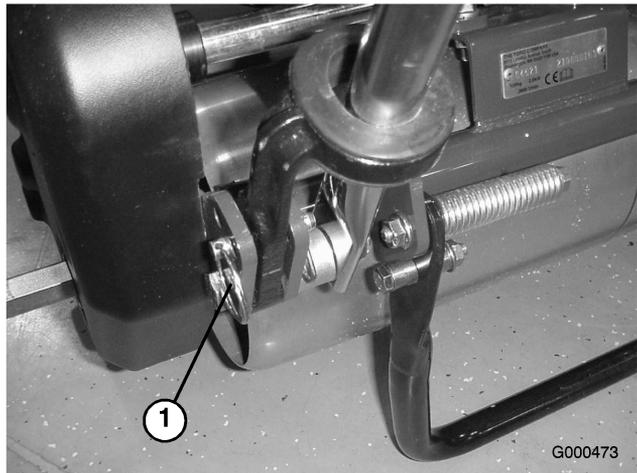

Figure 6
- Remove hairpin cotters from ring pins on each side of mower (Figure 6).
- While supporting handle, remove ring pins from each side and raise or lower handle to desired operating position (Figure 6).